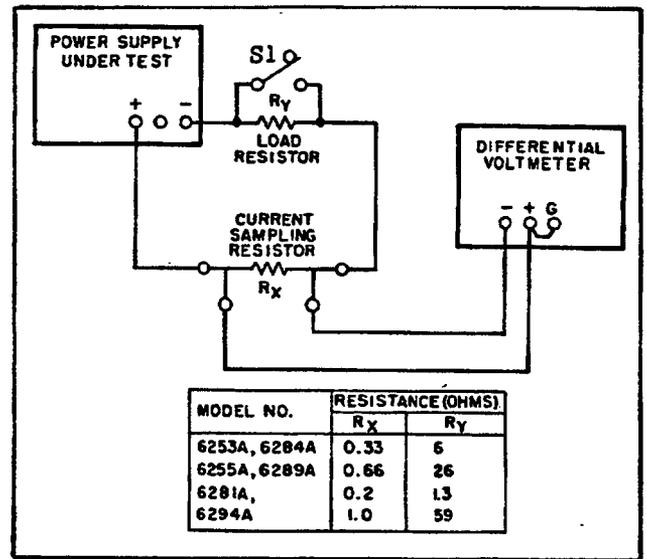

Figure 5-4. Output Current Test Setup
- Connect test setup as shown in Figure 5-4 leaving switch S1 open.
- a. Connect test setup as shown in Figure 5-4.